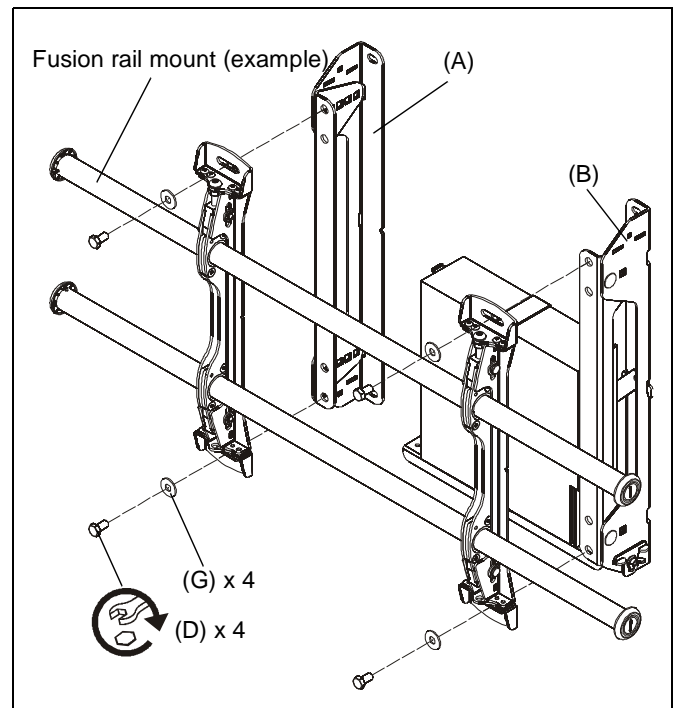

Figure 8
1. Use four 5/16-18 x 5/8" hex head bolts (D) and four 5/16" washers (G) to secure Fusion rail mount to brackets (A and B). (See Figure 8)